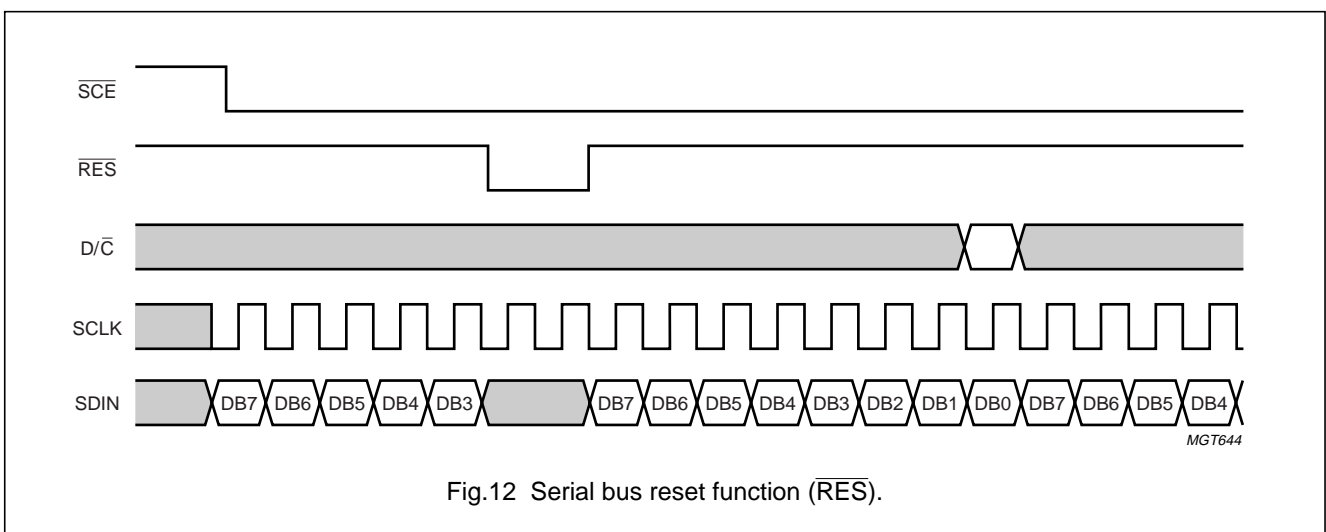

Fig.12 Serial bus reset function ( $\overline{RES}$ ).
- When  $\overline{SCE}$  is HIGH, SCLK clocks are ignored. During the HIGH time of  $\overline{SCE}$  the serial interface is initialized (see Fig.12)
- If  $\overline{SCE}$  stays LOW after the last bit of a  $\overline{\text{command/data}}$  byte, the serial interface expects DB7 of the next byte at the next positive edge of SCLK (see Fig.12). If SCLK goes LOW after the last data bit (DB0), either:
- A reset pulse with  $\overline{RES}$  interrupts the transmission. No data is written into the RAM. The registers are cleared. If  $\overline{SCE}$  is LOW after the positive edge of  $\overline{RES}$ , the serial interface is ready to receive bit 7 of a  $\overline{\text{command/data}}$  byte (see Fig.12).